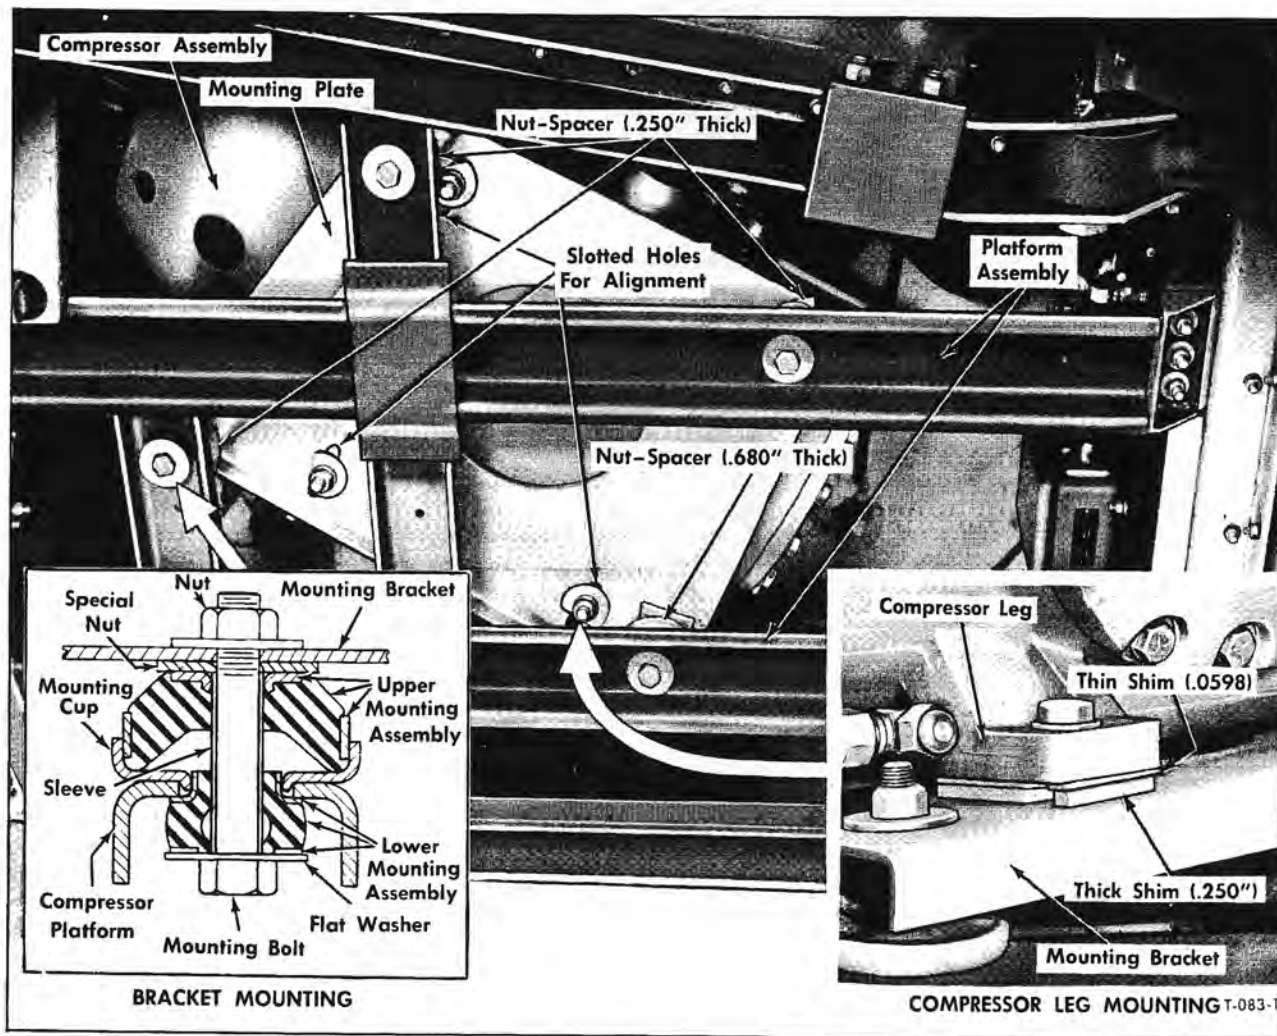

Figure 58—Compressor and Platform Mounting (Typical)
The refrigerant compressor, platform-mounted under rear of coach (fig. 58) is a four-cylinder reciprocating type unit. It is self-lubricated and self-contained. The shaft seal is of the rotary type, consisting of a stationary lapped seal face ring pressed into the seal cover, with a spring-loaded rotating carbon nose ring sealing against the seal face of the stationary ring.
1. Referring to figure 58, install compressor rubber mounting components to compressor platform if previously removed.